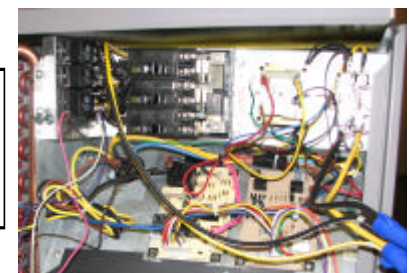

FIG. 3- Control panel installed.
2. Secure heater control plate to the upper left side of the unit control panel box with (4) screws provided (see fig. 3).
4. **50ZPA, 564B, PA3Z, PAT3, 50ZHA, 664B, PH3Z, PHT3 units:** Connect the (5-pin) low voltage harness plug from the heater to the fan control board at position P4 located inside the unit control box compartment (see fig. 3). Connect Black & Yellow "pigtailed" from unit contactor using the connectors provided with the heater.